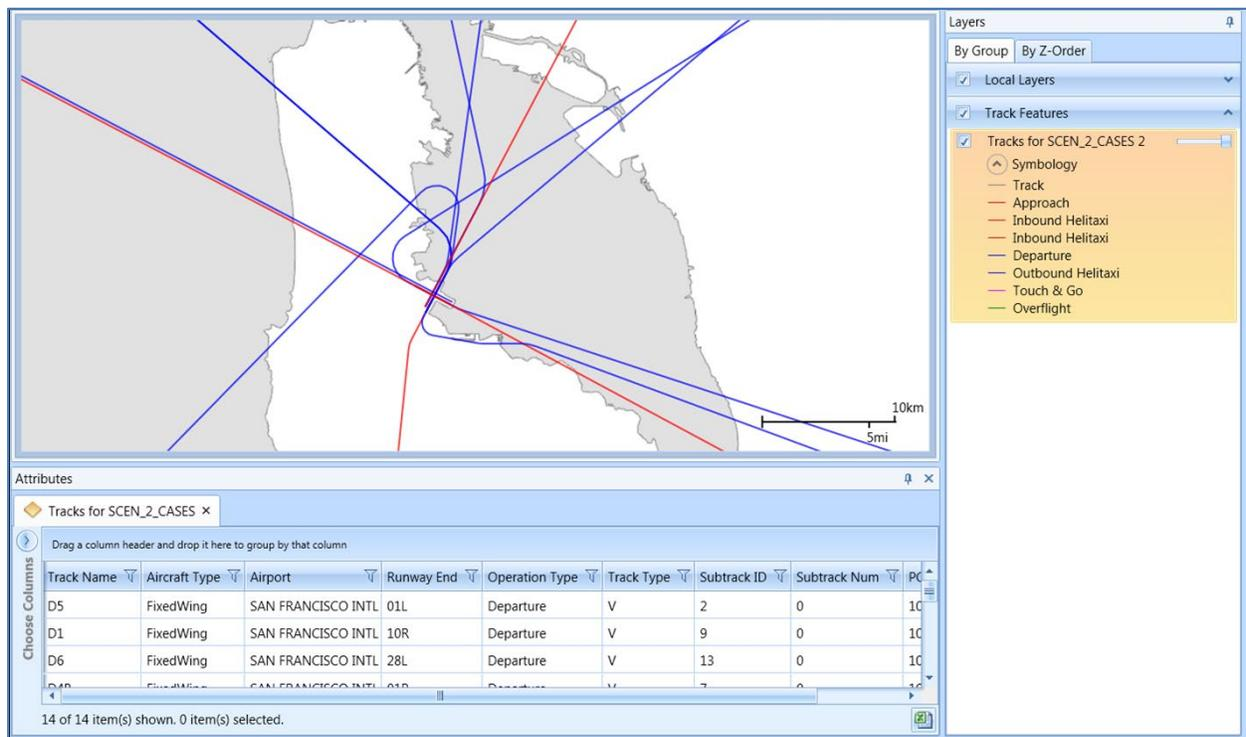

Figure 5-39 Sample Tracks Layer with Attributes
3. The Tracks Layer is displayed on the map (Figure 5-39) and in the *Layers* manager.
The following attributes are available for the Tracks Layer: track name, aircraft type, airport, runway end, operation type, track type, subtrack ID, subtrack number, and percent dispersion (Figure 5-39). See Appendix B.3 for descriptions of the attributes.